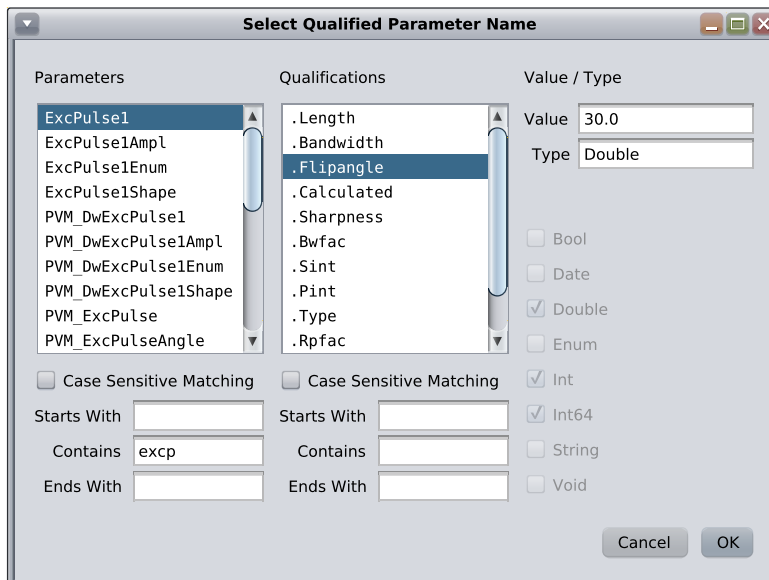

Figure 1.10: Dialog Select Qualified Parameter Name
- The selection dialog is opened (see [Figure 1.10 \[p. 36\]](#)).